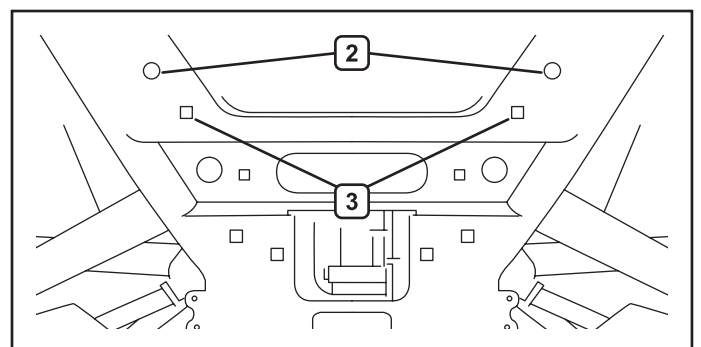
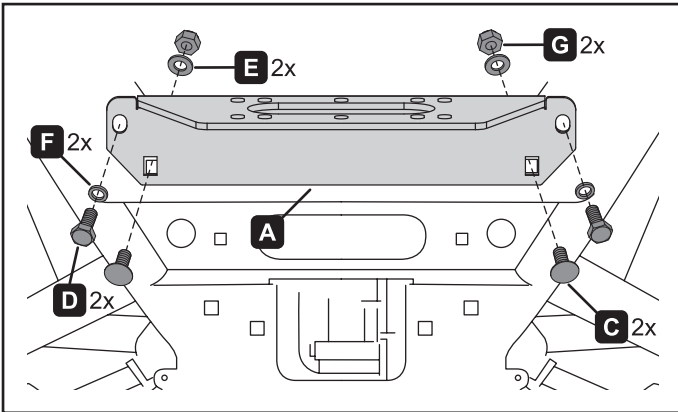

Figure 6.
Figure 7.
4. Install winch mount (A) with bolts (D) and washers (F) in holes marked (2) in figure 6 on previous page. See figure 7 for detail.
5. **2020 and older machines:** Install bolts (C), washers (E) and nuts (G) in holes marked (3) in figure 6 on previous page. See figure 7 for detail.